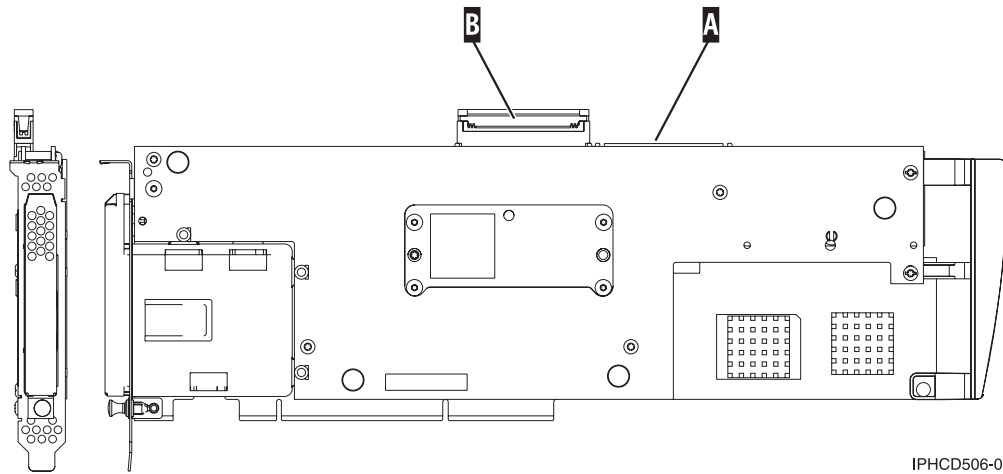

Figure 74. 5708, auxiliary-write cache IOA
2. Attach the cable to SCSI port A on the auxiliary-write cache adapter. See Figure 74 on page 264.